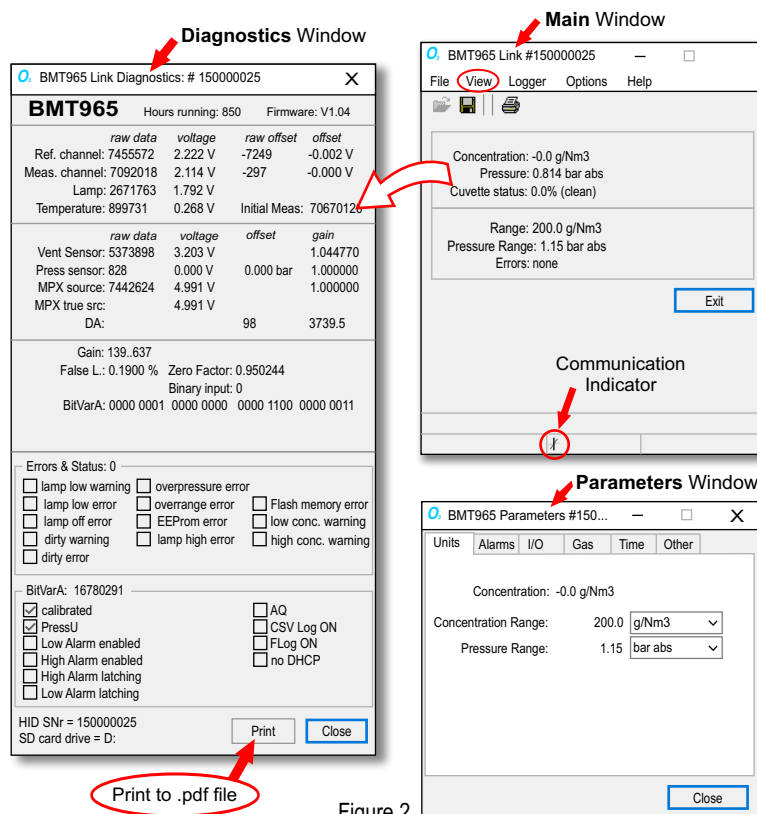

Figure 2
- 5) Dbl-Click the **L965** application and the 965 LINK windows should appear (see Figure 2). When data is being received the *communication indicator* on the MAIN window will spin and data fields should populate.